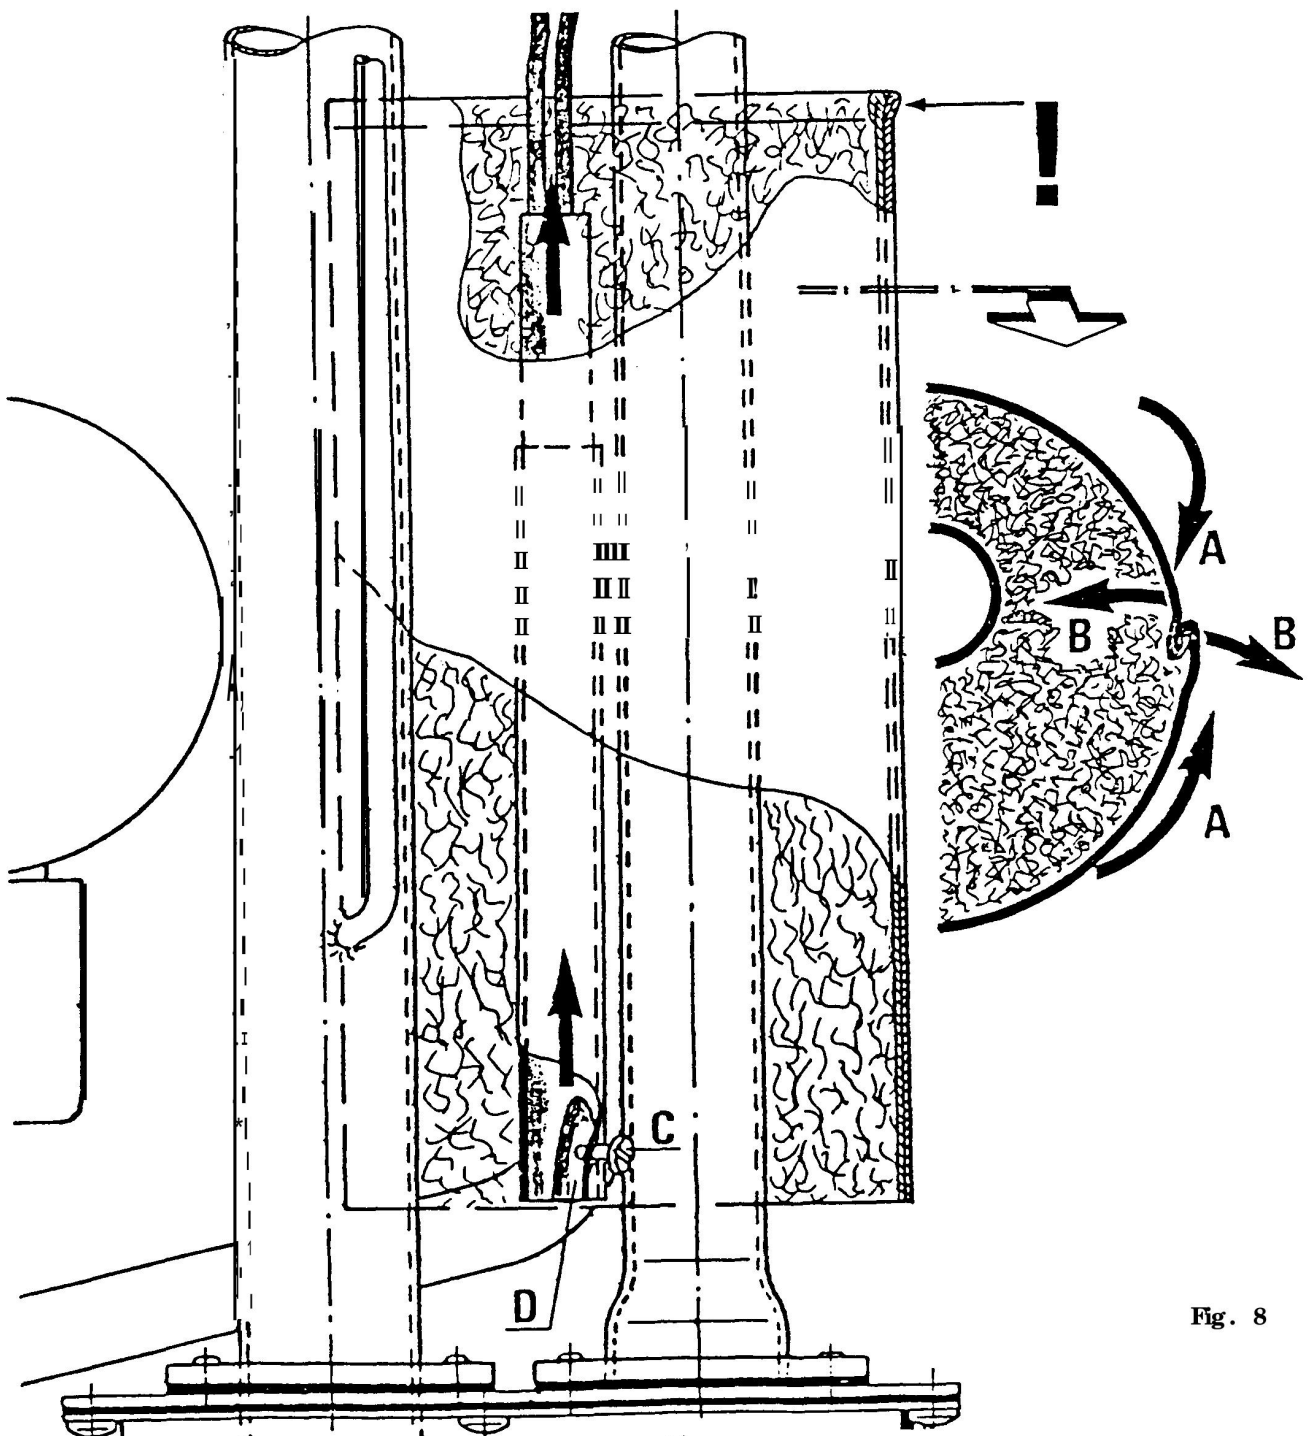

Fig. 8
5. Squeeze the heater insulation in direction of arrow (A, Fig.8) until it clicks open. Pull open the insulation in direction of arrow (B, Fig. 8) and remove it.
6. Unscrew fixing screw (C, Fig.8) of the heater and remove the heater from its pocket by pulling straight up.